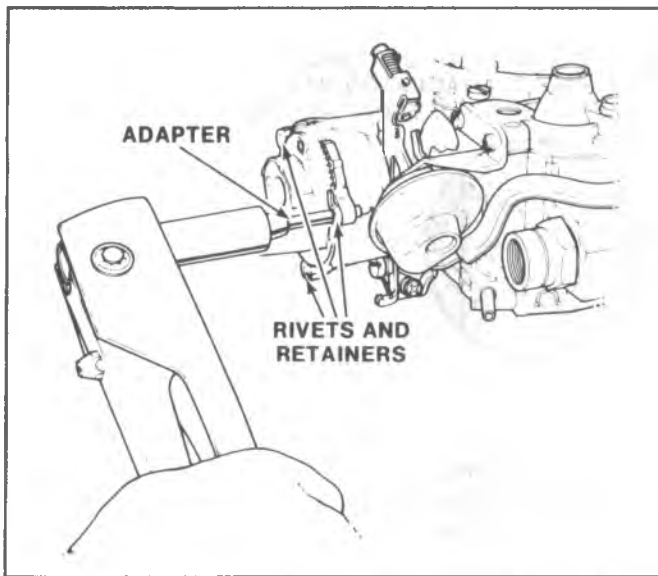

Fig. 6C10-30—Installing Choke Cover Rivets
2. Install eleven (or seven) air horn attaching screws and lockwashers; and two countersunk screws (Nos. 1 2) located next to the carburetor venturi area. If used, install secondary air baffle deflector under air horn screws 3 and 4. Tighten all screws evenly and securely following air horn screw tightening sequence (Fig. 6C10-22).
3. On models using a single rear vacuum break, install air valve rod in air valve lever. Install end of air valve rod and vacuum break link in slots in vacuum break plunger. Install vacuum break and bracket assembly on float bowl using too large countersunk attaching screws. Tighten screws securely. If vacuum break adjustment is necessary, see adjustment procedure (Fig. 6C10-39).
4. On models using a front vacuum break, install air valve rod into slot in air valve lever. Install the other end of rod in hole in front vacuum break diaphragm plunger. Install vacuum break on air horn using two attaching screws. Tighten screws securely. If vacuum break adjustment is necessary, see adjustment procedure (Fig. 6C10-38).